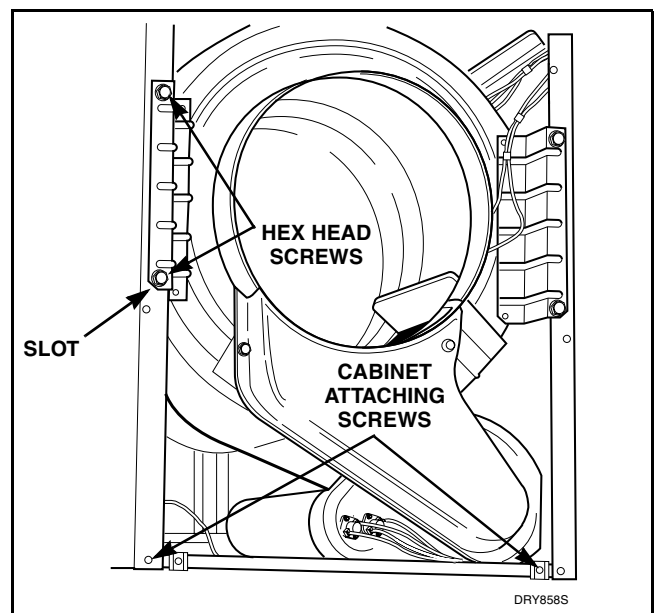

Figure 28
- Remove four screws holding bulkhead to cabinet and lift assembly out of slots in cabinet. Refer to *Figure 28*.
- g. Remove two hex head screws from front edge of each side of cabinet. Refer to *Figure 28*.